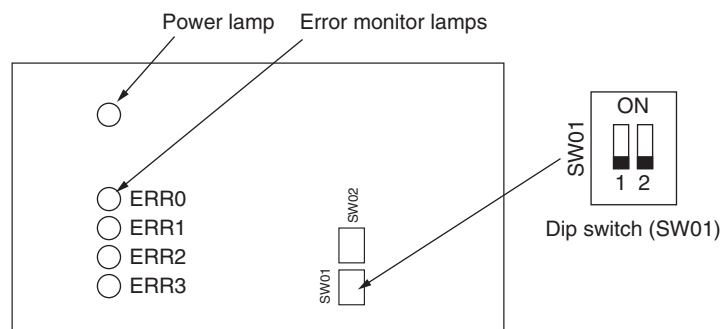

Fig. 6 Control P.C.Board
- (2) Turn on the switch No.2 of the dip switch (SW01) on the Control P.C.Board. (Fig.6)
Check the combined status of the error monitor lamps (Fig.6), and refer to the " 8-2-2. Display of Error Monitor Lamps" for the self-diagnostics.